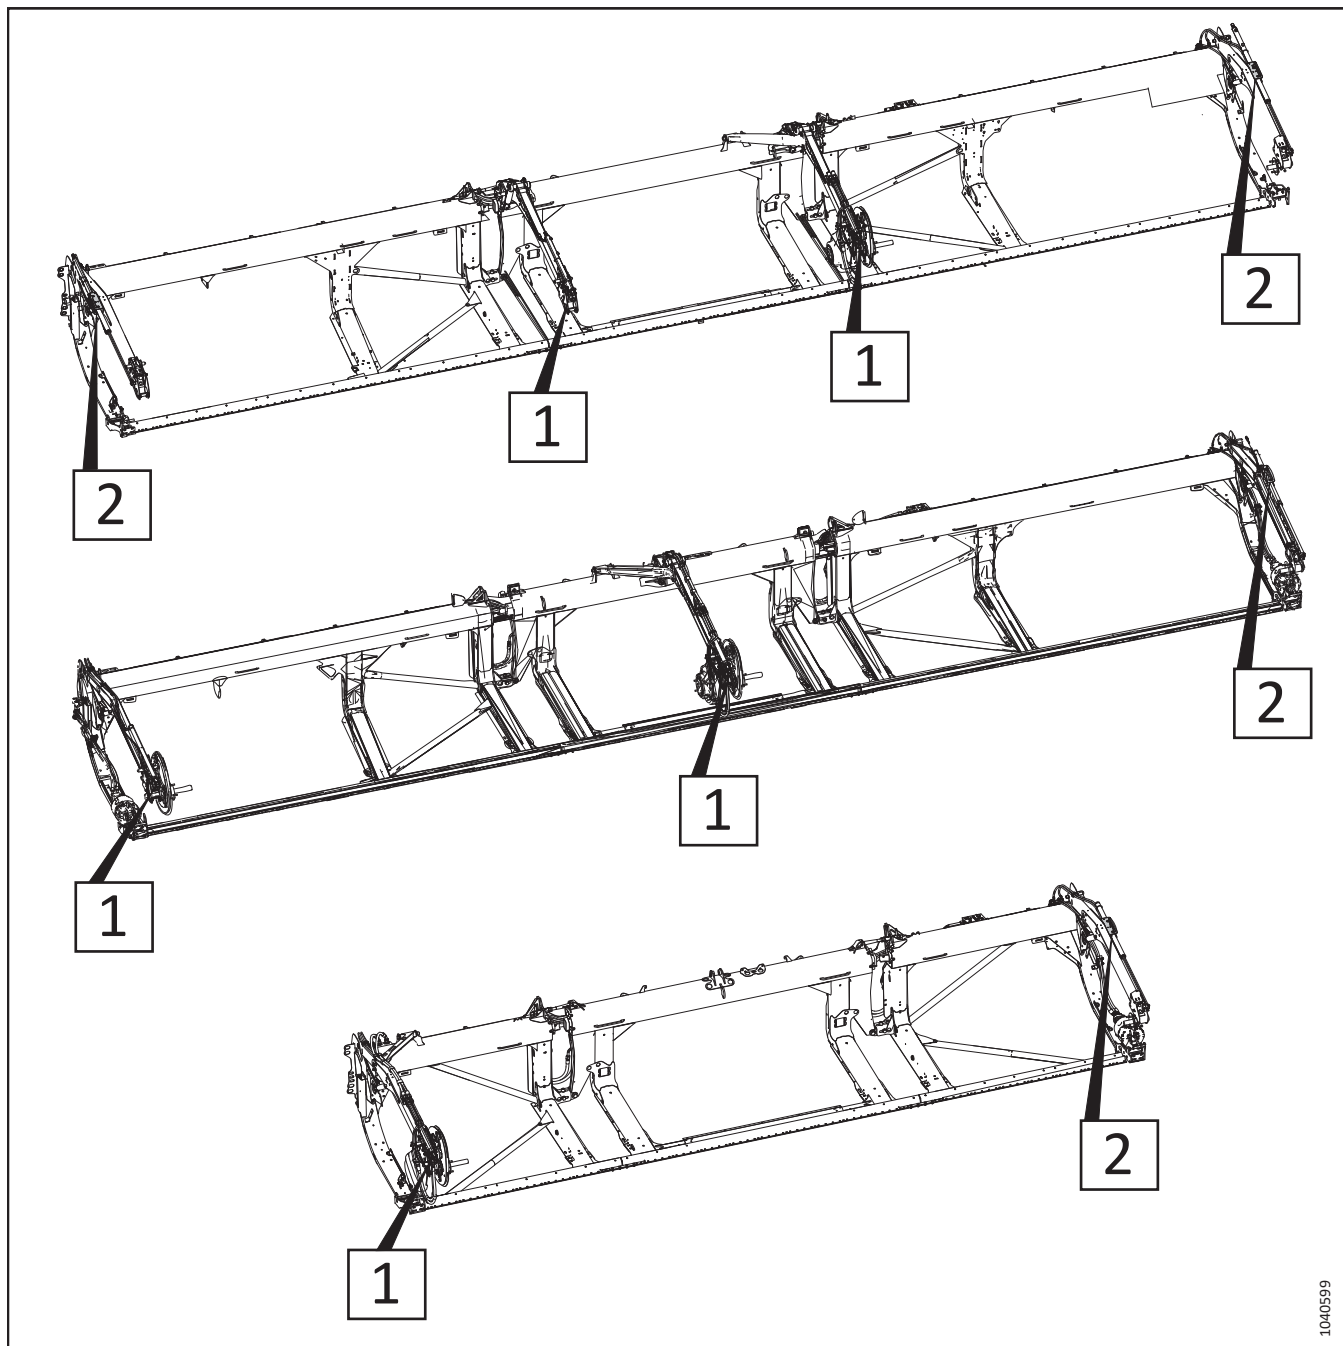

Figure 3.334: Adjustable Fore-Aft Cylinders – Procedure Reference Numbers
6. Refer to Figure 3.334, page 228 to determine the fore-aft cylinder adjustment procedures for your header type. The number on the illustration refers to one of the following procedures: